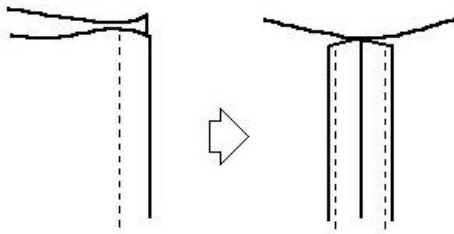

Figure 19. Collar.
- 8.1 Sew the center seam of the collar, right sides together. On the inside, stitch down the seam allowances on both sides of the seam. See *Figure 19*.